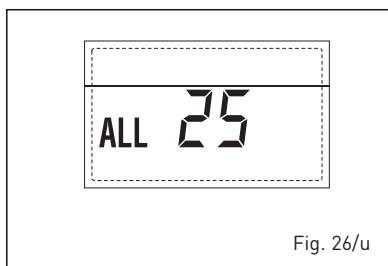

Fig. 26/u
– **ANOMALIA GUASTO SONDA SOLARE S3 "ALL 26" (fig. 26/v)**